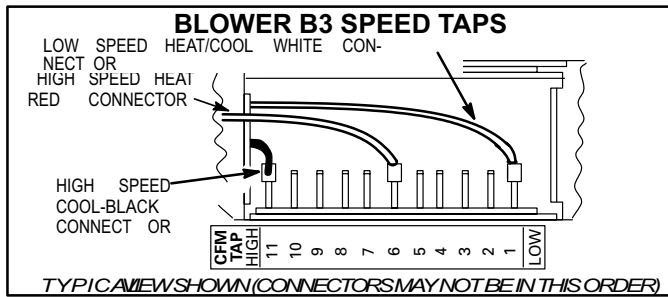

FIGURE 39
- 5- Remove the appropriate speed connector and place it on the proper tap. See figure 39.